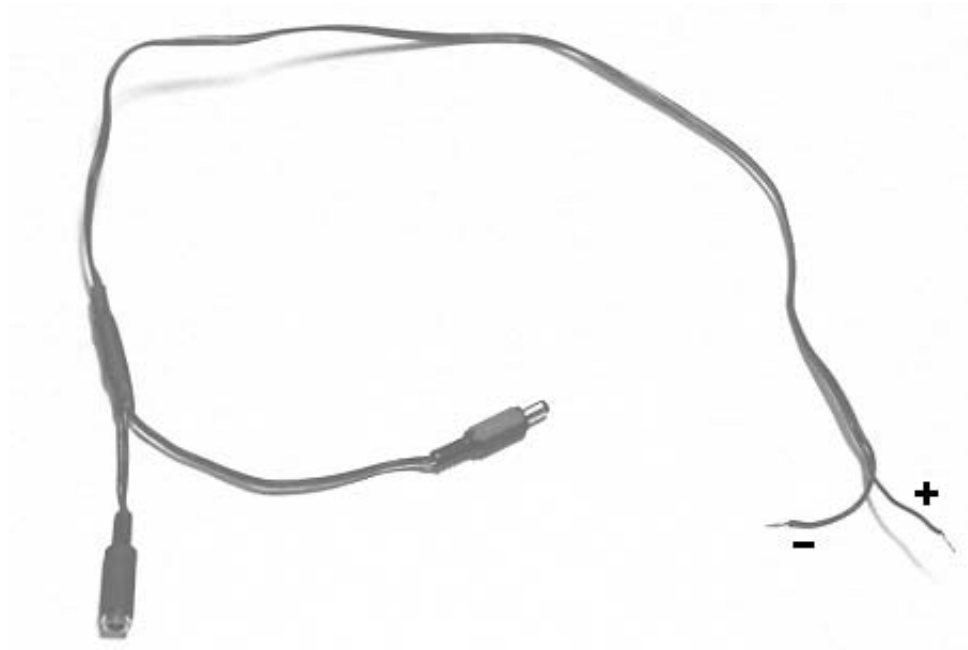

Figure 2-7. Power Adapter Cable
1. Connect the P5-type power plug of the dc power cable into the power jack of the power adapter cable (Figure 2-7).